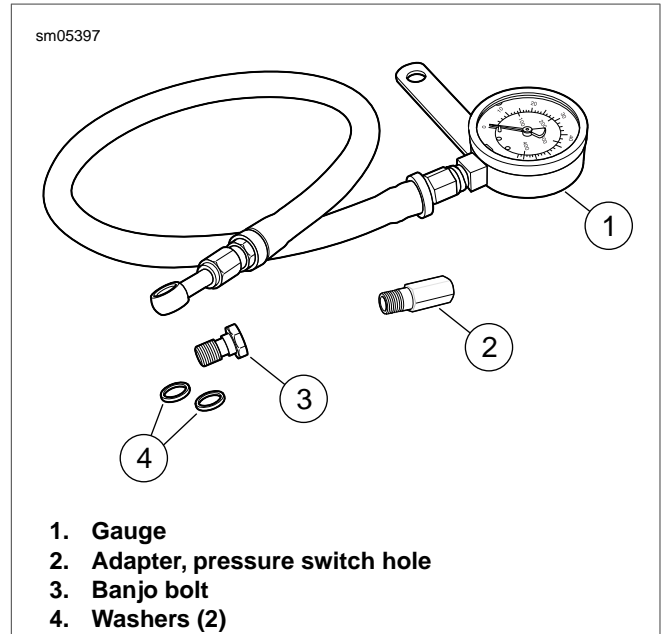

Figure 3-101. Oil Pressure Test Gauge Set
2. See Figure 3-101. Install adapter (2) from OIL PRESSURE GAUGE SET (Part No. HD-96925-52B) in oil pressure indicator lamp switch mounting hole. Tighten adapter snugly. DO NOT OVERTIGHTEN.